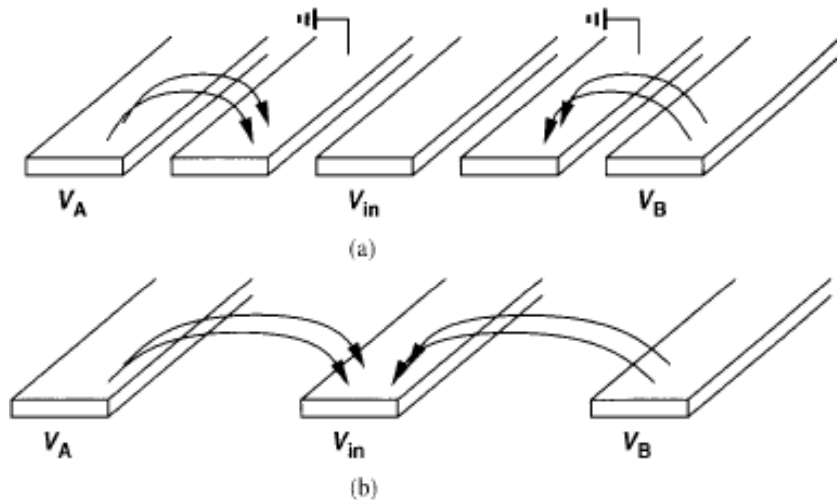

Figure 18.40 (a) Shielding sensitive signals by additional ground lines, (b) greater spacing between lines to reduce coupling.
- Most of the electric field lines terminate on ground rather than the signal lines (Fig. 18.40)